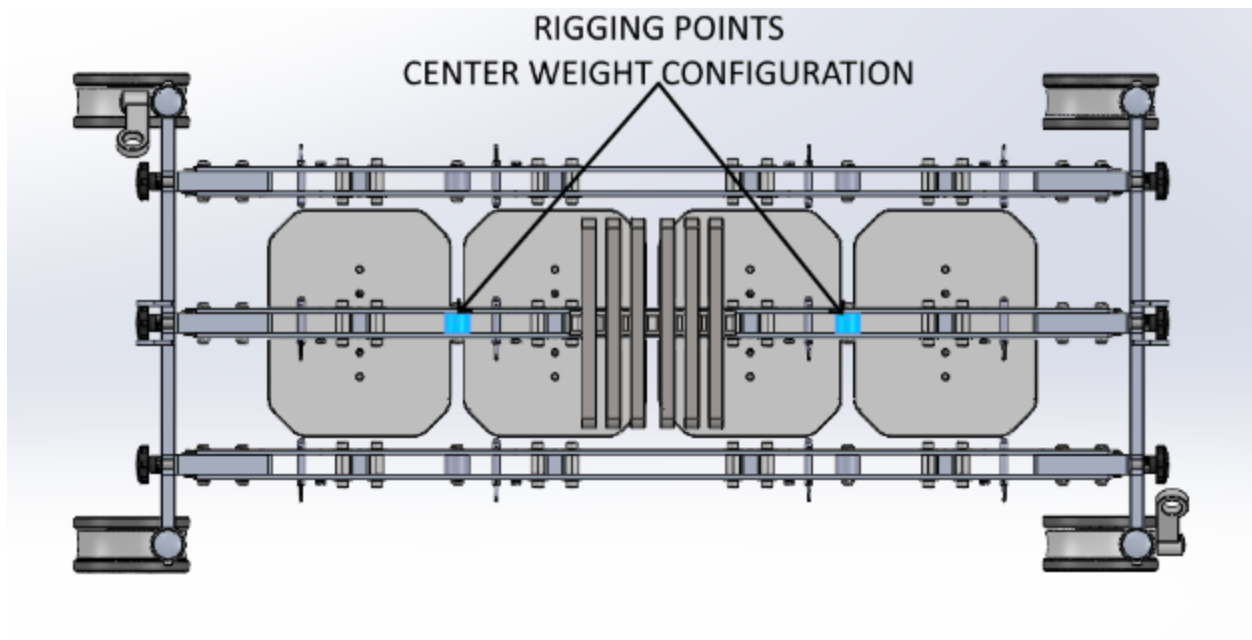
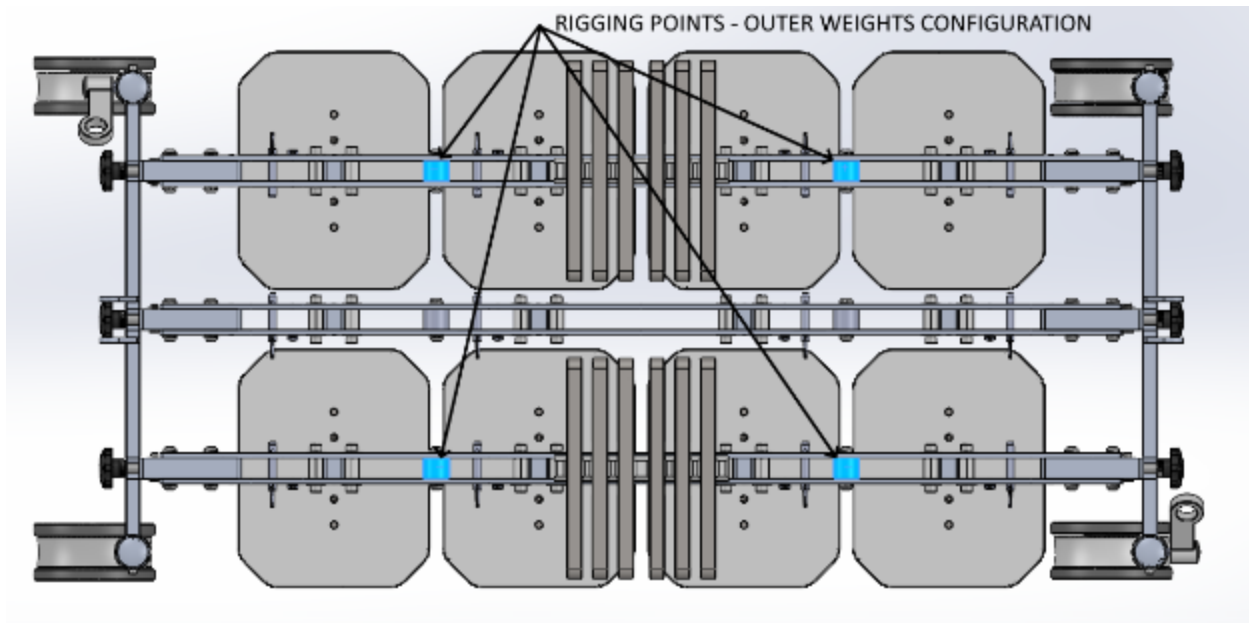

Figure 9: Rigging Points for Single Weighted Load Beam
Figure 10: Rigging Points for Multiple Weighted Load Beams
Straps must be connected and used on any load beam that has Pumpkin Weights connected to it. If only the center load beam has weights connected, then only two (2) lifting straps are required to be connected to the load pins on the center load beam (See Figure 9). If Pumpkin Weights are connected to the two outside load beams, then both outside load beams must have two (2) straps connected to the loading pins on each load beam, four (4) straps used in total (See Figure 10).